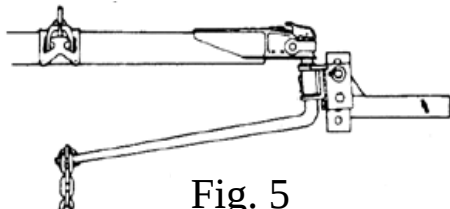

Fig. 5
6. Raise trailer tongue and rear of vehicle with the tongue jack. Approximately 8 to 12 inches. Lower yoke of snap up bracket until it is parallel with the ground, and slip the closest link over the hook (If there are less than 5 links between hook and u-bolt adjust ballmount angle rearward, and repeat procedure - see Fig. 5 thru 8 below). With the snap up bracket handle over the yoke, raise until yoke has passed "over-center". Slide the spring clip ③ through the small hole to lock the yoke in place. Repeat for other side.